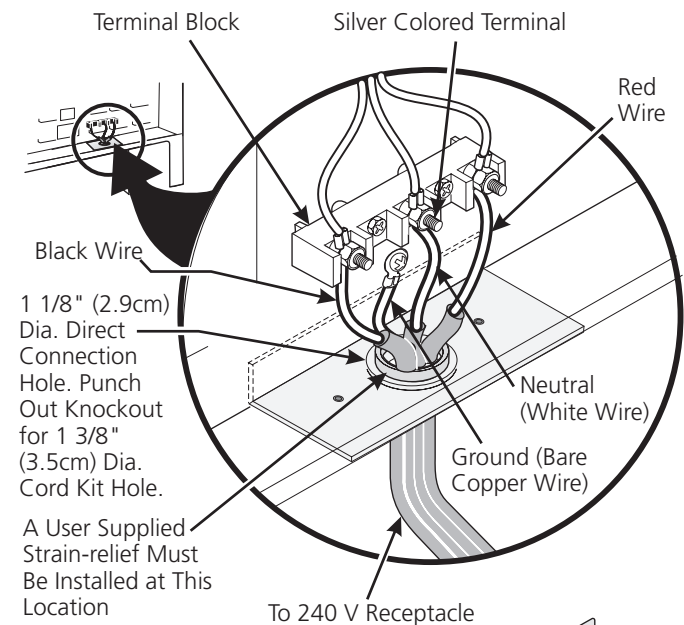

**Figure 3**
**NOTE:** Range is shipped from factory with 1 1/8" dia. hole as shown in figure 3. If a larger hole is required, punch out the knockout.
If local codes permit connection of the frame grounding conductor to the neutral wire of the copper power supply cord (see Figure 3):
2. Using the nuts supplied in the literature package, connect the neutral of the copper power supply cord to the center silver-colored terminal of the terminal block, and connect the other wires to the outer terminals. Match wires and terminals by color (red wires connected to the right terminal, black wires connected to the left terminal) (see figure 3).